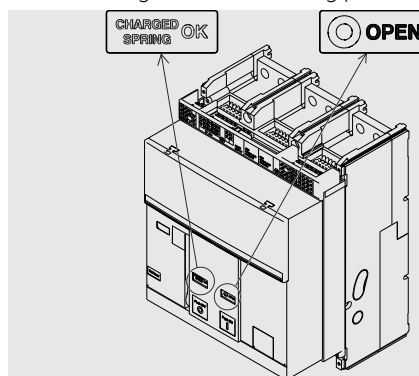

Figure 44
3. Check that the circuit-breaker is open (open/closed signalling device "O - OPEN"), and check that the springs are charged (springs signalling device "yellow - CHARGED SPRING") as indicated in Figure 44.